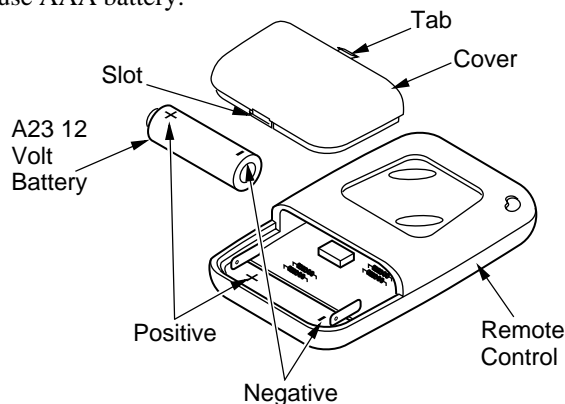

Figure 49 - Installing Battery
1. Locate slot at bottom of remote control (see Figure 49). Firmly insert tool such as a small screwdriver, butter knife, or dime into the slot and lift up to remove cover.